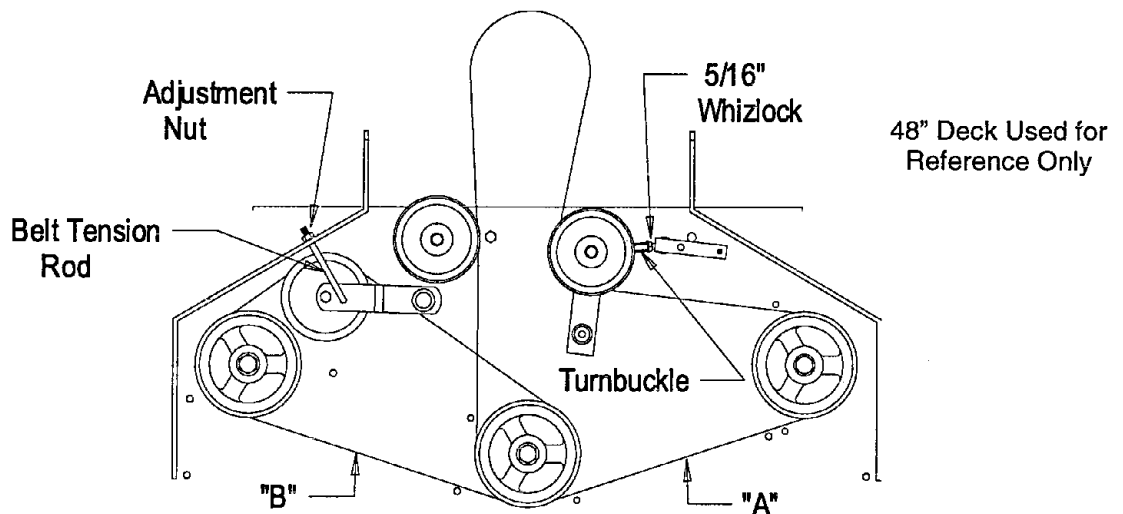

FIG. 11
- c) Belt must be tight enough so it does not slip during heavy loads while cutting grass. Over-tensioning will reduce belt and spindle bearing life. To adjust belt tension, loosen the 5/16" whizlock nut on turnbuckle and rotate the turn buckle; rotate turnbuckle toward rear of mower to tighten, and toward front of mower to loosen belt tension (See Figure 11).
- e) For the 14 and 15 hp engines, proper belt tension will require about 10 lbs. side pull on belt, halfway between pulleys, to deflect belt 1/2" . (See Figure 11, Point A).
- b) The secondary drive belt is adjusted via the belt tension rod (See Figure 11). The 5/16" nylock adjustment nut is located at the rear, right corner of engine deck.
- c) Proper belt tension (for the secondary belt) will require about 10 lbs. side pull on belt, halfway between pulleys, to deflect belt 1/2" . (See Point B, Figure 11).